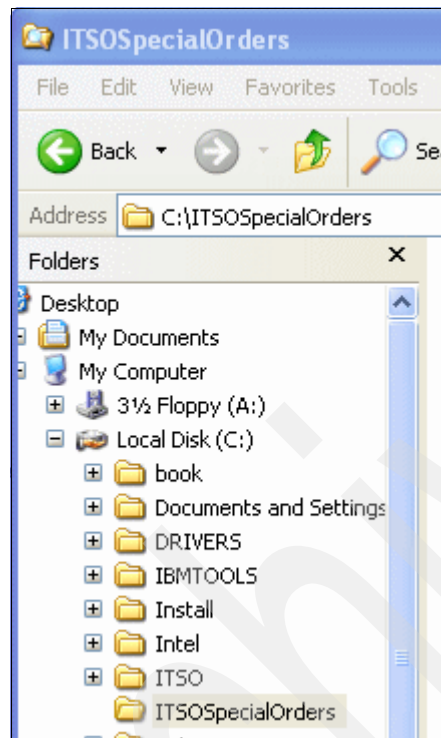

Figure 4-10 Our Adapter output directory
1. Create a C:\ITSOSpecialOrders folder in the file system as shown in Figure 4-10.